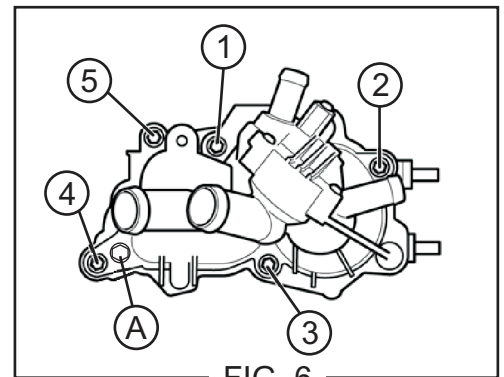

FIG. 6
1st Step: Tighten water pump bolts with a 10 Nm tightening torque, in the order that picture show [FIG. 6].
3rd Step: Turn clockwise the water pump with a 30 Nm tightening torque through the hexagonal hole (A) [FIG. 6] with an allen key.
4th Step: Tighten water pump bolts 2, 1 and 5 [FIG. 6] with a 10 Nm tightening torque.
5th Step: Leave to apply the tightening torque to the water pump (A) [FIG. 6].
6th Step: Tighten water pump bolts 3, 4, 5, 1 and 2 [FIG. 6] with a 12 Nm tightening torque.